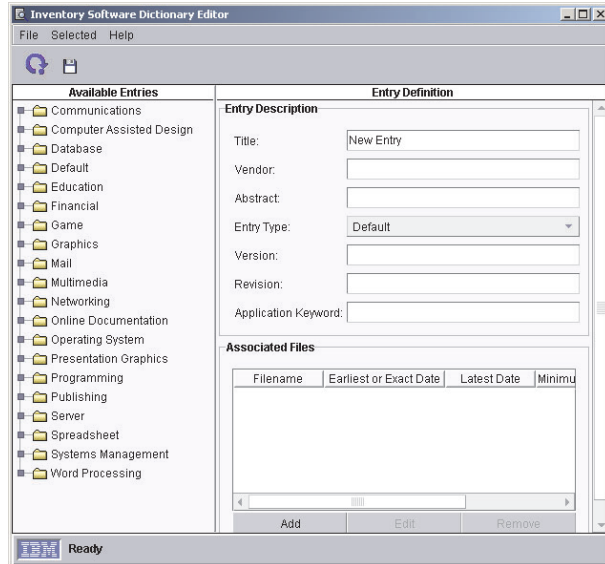

Figure 84. “Inventory Software Dictionary Editor” window
1. In the IBM Director Console Tasks pane, right-click the **Inventory** task; then, click **Edit Software Dictionary**. The “Inventory Software Dictionary Editor” window opens. (See Figure 84 on page 171.)